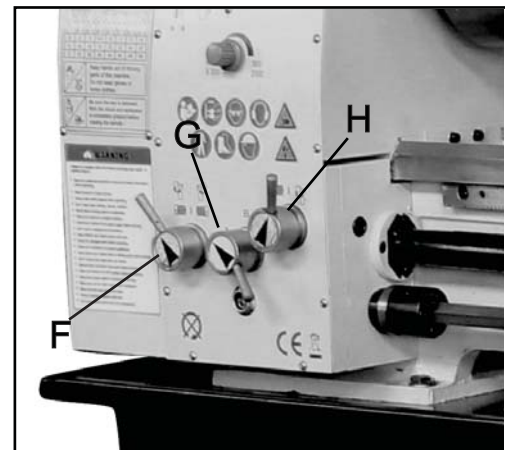

Fig. 12
4. Feed Direction Selector (F, Fig. 12)
5. Feed Rate Selector (G, Fig. 12)
6. Feed/Thread Selector (H, Fig. 12)